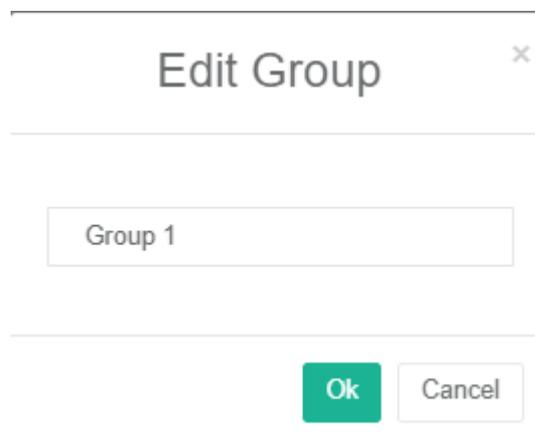

Figure 5-6
- 4) Click "✎" button to open setting screen, as shown in Figure 5-6;